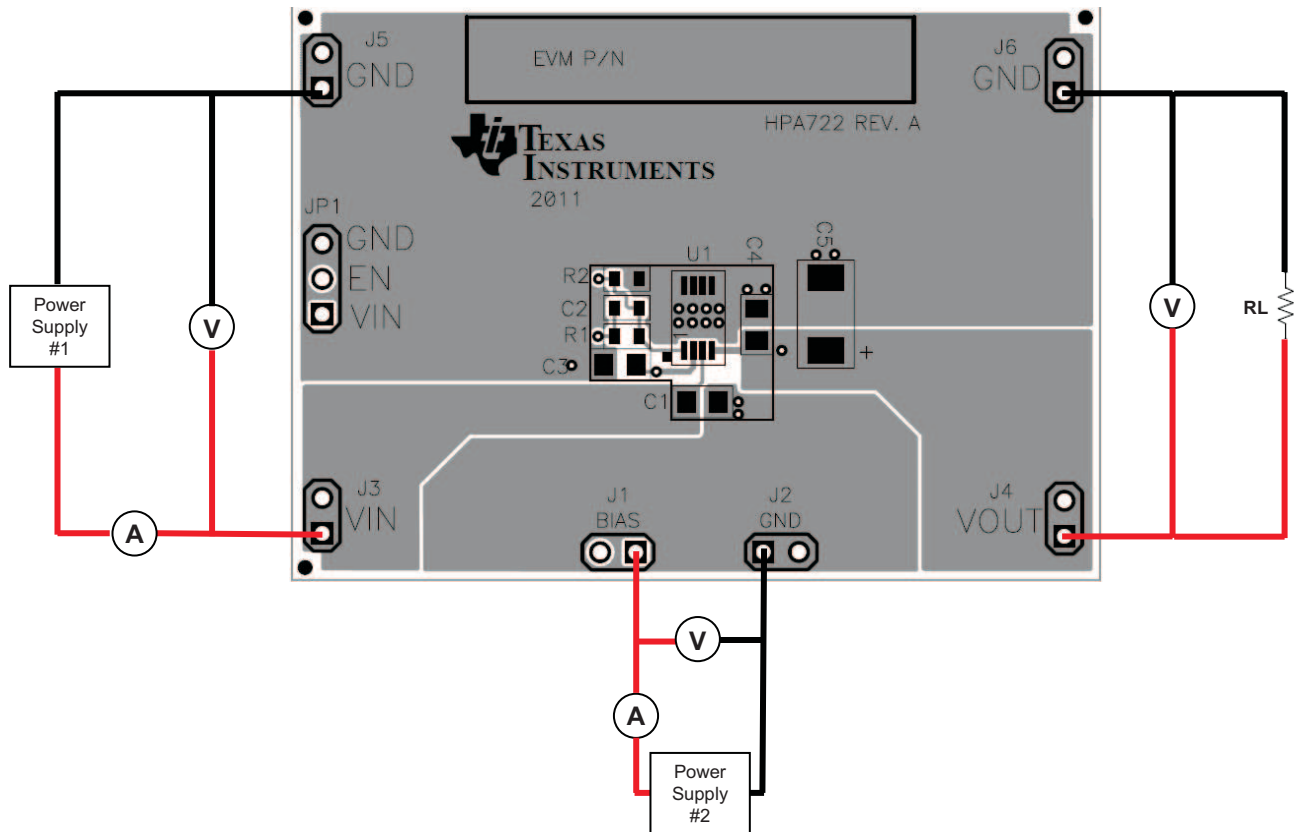

Figure 2. Quick-Start Connection Setup
1. Connect power supply #1 to V_{IN} (J3) and its return connection to J5 as shown in Figure 2. V_{IN} must be at least 300 mV (or V_{DO}) greater than V_{OUT}, up to 5.5 V.
2. Connect power supply #2 to V_{BIAS} (J1) and its return connection to J2 as shown in Figure 2. V_{BIAS} must be between 3 V and 5.5 V.